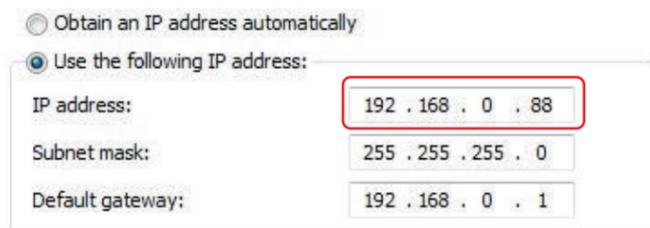

Fig. 6.4
- (3) Double click “Internet Protocol Version 4 (TCP/IPv4)” to set up “Internet Protocol (TCP/IP) Properties”. Set IP address as 192.168.0.88, click “OK” (See Fig. 6.4).